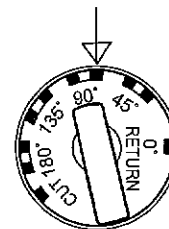
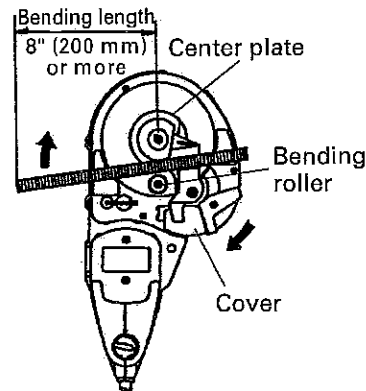
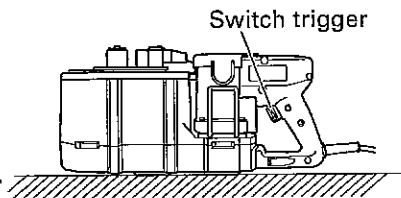

Fig. 13
Fig. 14
Fig. 15
In bending the rebar of #3(3/8"), #4(1/2"), and #5(5/8") diameters, a difference takes place in the bending angle even in the same dial position depending upon the difference of rebar's thickness. Slightly change a position of the setting dial depending upon the rebar's diameter even with the same bending angle as shown in Fig. 13.
- (1) Set the unit in the position with the turntable up as shown in Fig. 14.
- (2) Make sure that the cover is closed.
- (3) Set the setting dial at the desired angle. (Fig. 13)
- (4) Place the rebar on the center plate and set it correctly as shown in Fig. 14.
- (5) Pull the switch trigger and bent the rebar.
- (6) Continue pulling the switch trigger until the motor makes reverse rotation and the bending roller starts to return. (Once the bending roller starts to return, it will automatically return all the way to the home position even if the switch trigger is released.)(Fig. 15)
If the bending length is not long enough, the rebar can come off during bending operation, or it can break into fragments and scatter dangerously. (Fig. 14)